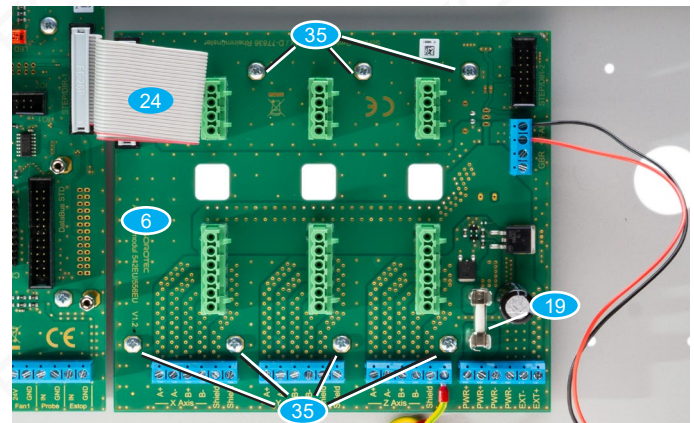

Fig. 11: C3 Drive-Module
- Mount the C3 Drive-Module **6** with cylinder head screws **35** as shown in Fig. 11.